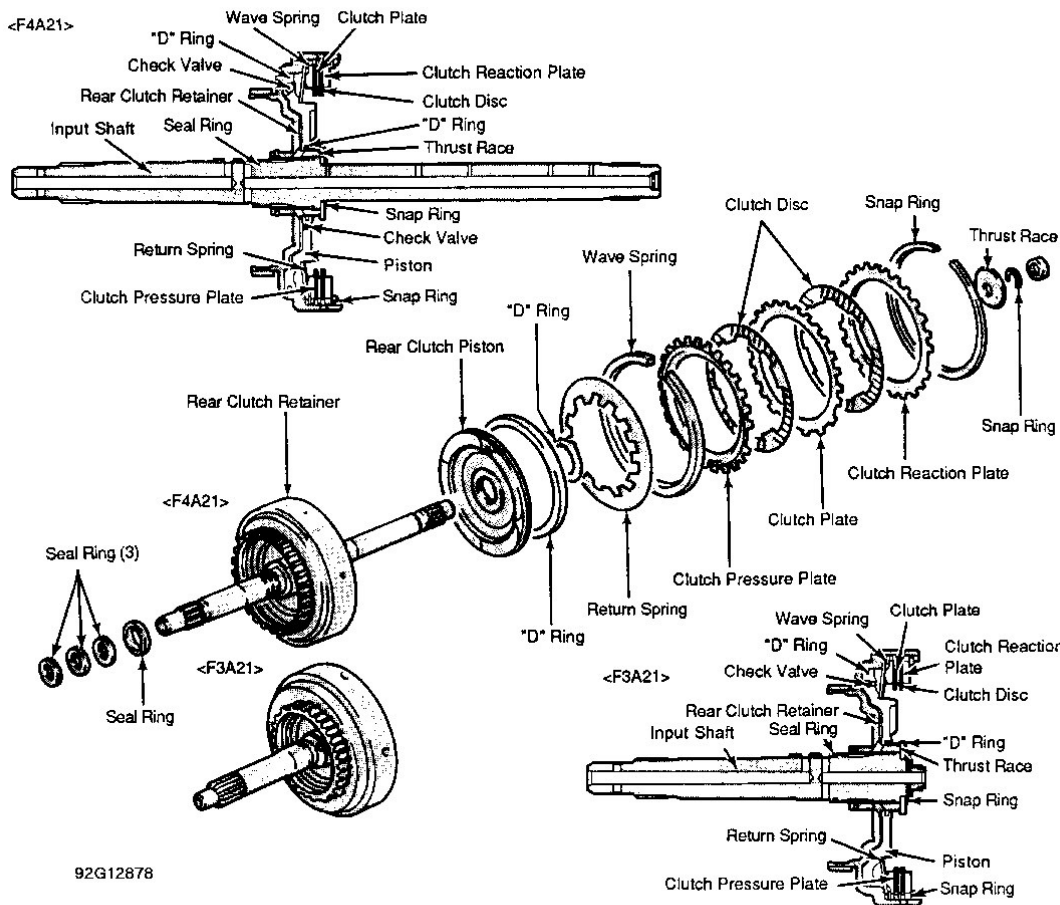

Fig. 13: Exploded View of Rear Clutch Assembly
2. Remove clutch reaction plate, 2 clutch plates, 3 clutch discs and clutch pressure plate from retainer. See **Fig. 13** . Compress return spring and remove wave spring. Remove spring and piston. Remove "D" rings from piston.
2. Install return spring on piston. Compress return spring and install wave spring. Install clutch pressure plate, 3 clutch discs, 2 clutch plates and clutch reaction plate in rear clutch retainer. See **Fig. 13** . Apply ATF to plates and discs and install snap ring.